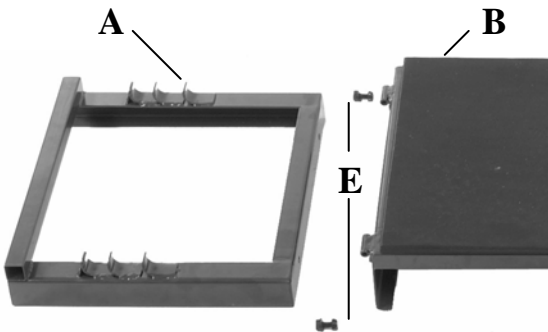

Fig. 1
1. Attach Parts (A) to Part (B) using 1 Bolt (E) per hole and secure with nut. (Fig. 1)